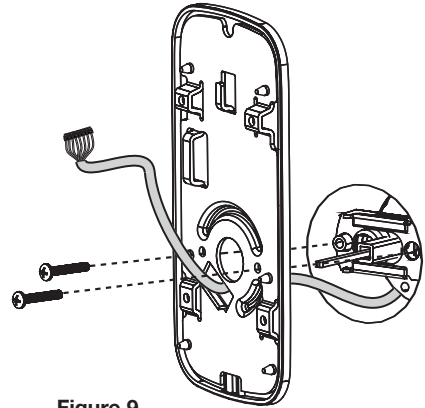

Figure 9
6. Holding the exterior escutcheon flush to the door, position the interior mounting plate by first routing the wire harness through the mounting plate's 1/2" rectangular hole below center hole (Fig. 9).